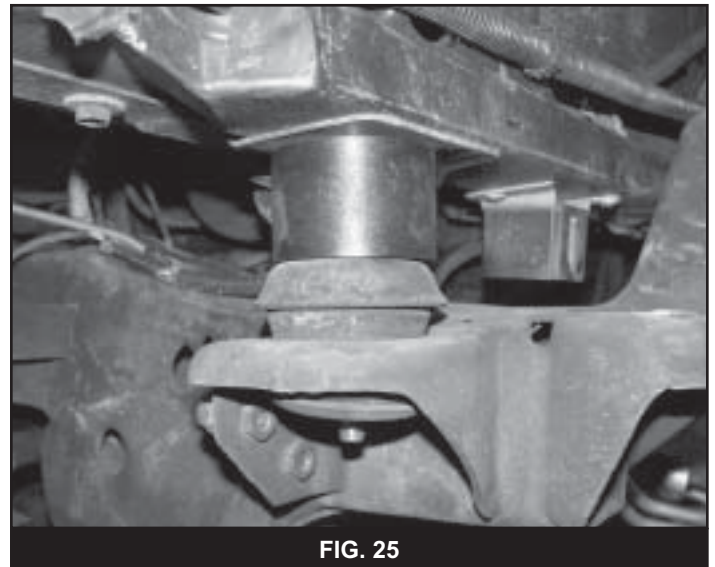

FIG. 25
38. Install 12mm x 140mm bolts and 7/16" USS washer in conjunction with the OE washer and bushings in the main cab mounts. Install a 12mm x 140mm bolt with large 1/2" washer in the front core support mount from the top down and fasten with the OE bushing, washer, and nut (Fig 25). Leave all hardware loose at this time.